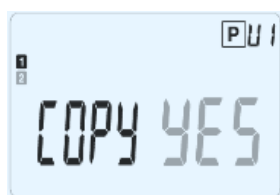

Fig. 24
- a. *choose the “going to bed”  symbol, corresponding to the end of the day, to close; the thermostat will ask you to copy the program of the day, which you just have set and decided to close, onto the following days, as shown in Fig. 24:*